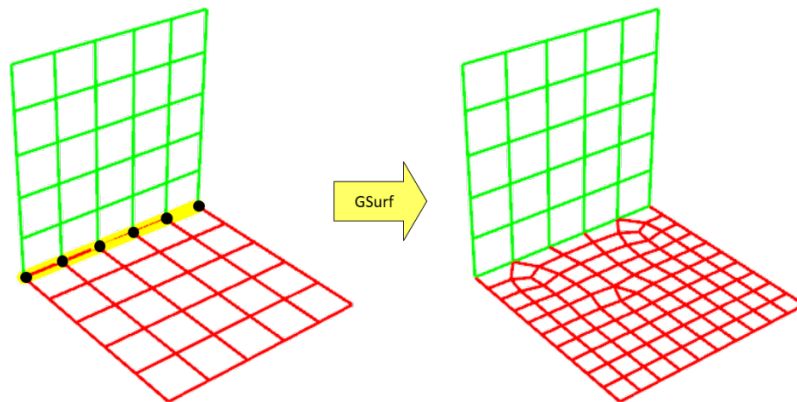

Figure 22: Specifying hard edges.
Hard edges are edges that are preserved in a mesh during the remeshing process. Consider an example in Figure 22 (left), which shows two conformal surface meshes. If one of the meshes (for instance, the red mesh) is changed (for example, refined) while the other is unmodified, the conformity of the meshes will be broken. **GSurf** offers a way to remesh a specific or all meshes while preserving conformity along mesh edges. This can be done by creating hard edges.
1. Use *Rhino*'s **_DupBorder** command on the red mesh, which will duplicate the mesh border (i.e., will create a curve connecting only nodes on the mesh boundary). Delete unnecessary segments of the curve (use the **_SubCrv** command) leaving only those segments that connect to the green mesh (as shown in Figure 22, left).